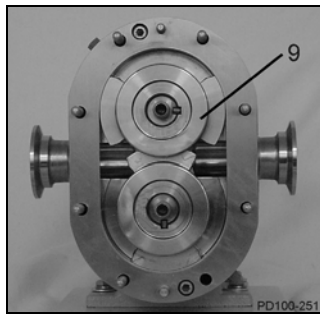

Figure 35 - Remove Overlapping Rotor First
- Using only your hands, first remove rotor with hub overlapping other rotor wing (Figure 35, item 9). Place rotors in up-turned cover to prevent damage to close tolerance parts.